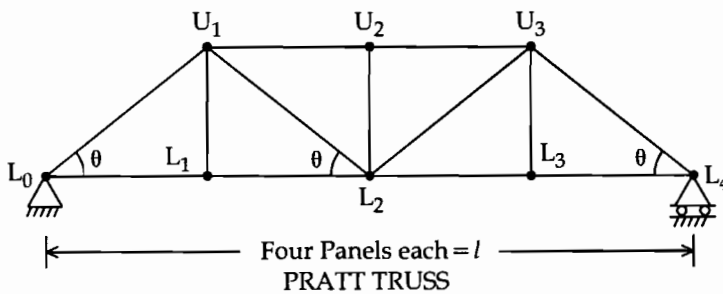

Figure 3. B
- (C) Determine the horizontal thrust and the bending moment at the crown in parabolic two hinged arch shown in Figure 3.C assuming that $I = I_C \sec \theta$. The outward horizontal displacements at A and B due to yielding of supports are $40/EI_C$ and $60/EI_C$ respectively. 08